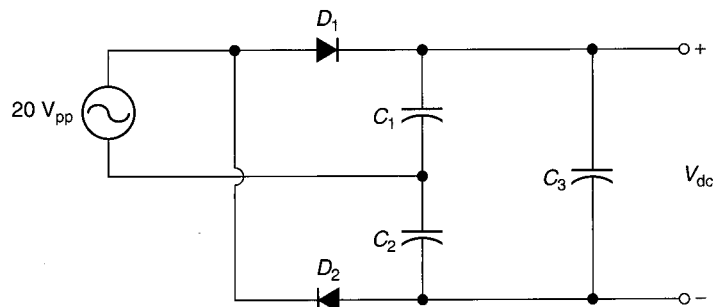

FIGURE 4.41
- 27.** Determine the dc output voltage for the circuit shown in Figure 4.41. Assume that the diodes are ideal components.